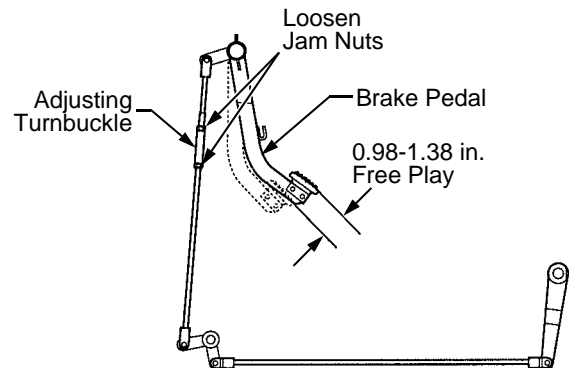

Figure 44
- Loosen the jam nuts from the turnbuckle on both the left and right brake adjustment rods. See Figure 44.